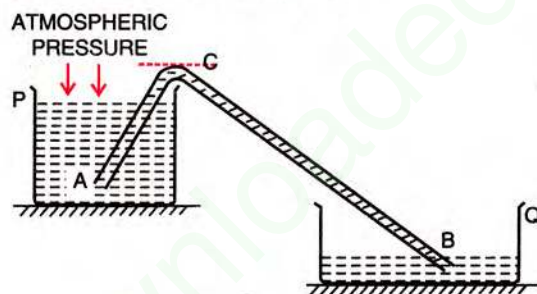

Fig. 4.17 Siphon system
- (v) **Action of a siphon system :** Water is supplied from a higher level to a lower level using a siphon system. Fig. 4.17 shows the siphon system in which there are two vessels P and Q . Vessel P is at a higher level than the vessel Q . Water contained in the vessel P is passed to the vessel Q by means of a glass (or rubber) tube AB with one end A kept immersed inside water in vessel P , while the other end B is kept open in vessel Q . To transfer water from vessel P to vessel Q , first air is sucked out from the tube at the lower end B of it, so that pressure inside the tube decreases. It becomes less than the atmospheric pressure acting above the water surface in vessel P . Due to excess pressure at A , water rises in the tube through the end A , so as to reach up to the level C . Then water flows down through the tube from the higher level C to the lower level B in the vessel Q due to the difference in pressure of water at the levels C and B .